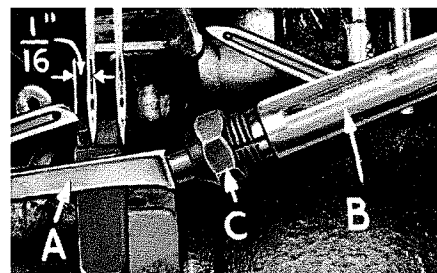

Fig. 6
At this point, insert lower looper (A, Fig. 6) into bar (B). With the lower looper at the left end of its stroke, set point $1/16$ inch from center of left needle (Fig. 6), using looper gauge No. 21225-1/16.